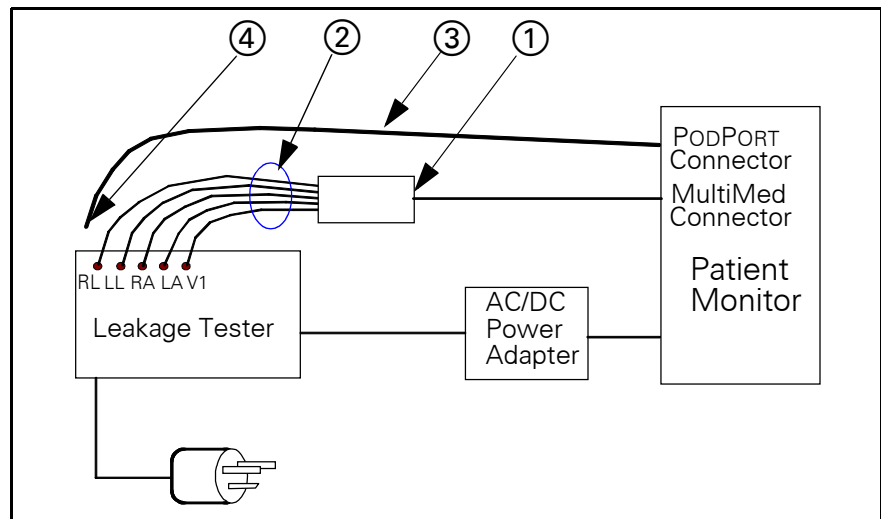
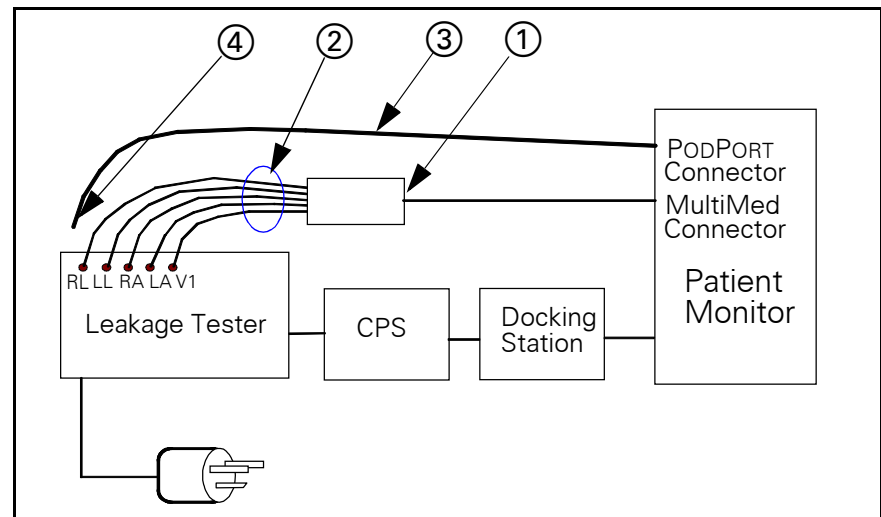
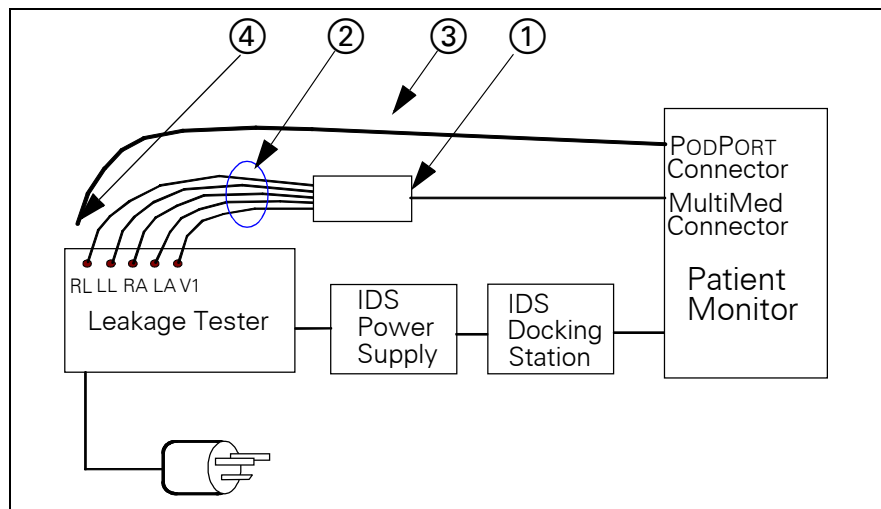

Figure 4-3 Block Diagram: Earth Leakage Current (AC/DC Power Adapter)
Figure 4-4 Block Diagram: Earth Leakage Current (CPS/Docking Station)
Figure 4-5 Block Diagram: Earth Leakage Current (INFINITY Docking Station)
1. Perform leakage current tests on a SC6002XL series monitor with ac power adapter (see Figure 4-3), CPS Communications/Power Supply (see Figure 4-4), or IDS power supply (see Figure 4-5) plugged into leakage tester.
2. Attach MutiMed cable (① in Figure 4-3, Figure 4-4, and Figure 4-5) to Monitor.
3. Attach MutiMed cable ECG leads (② in Figure 4-3, Figure 4-4, and Figure 4-5) to corresponding posts at Leakage Tester.
7. Disconnect MutiMed cable ECG leads (② in Figure 4-3, Figure 4-4, and Figure 4-5) from corresponding posts at Leakage Tester.
8. Short together all leads to shield at end of PodCom Leakage Test Cable (④ in Figure 4-3, Figure 4-4, and Figure 4-5) and connect leads and shield to RL post of Leakage Tester.
9. Attach Pod Com Leakage Test Cable (③ in Figure 4-3, Figure 4-4, and Figure 4-5) to SC 6002XL PODPORT connector.